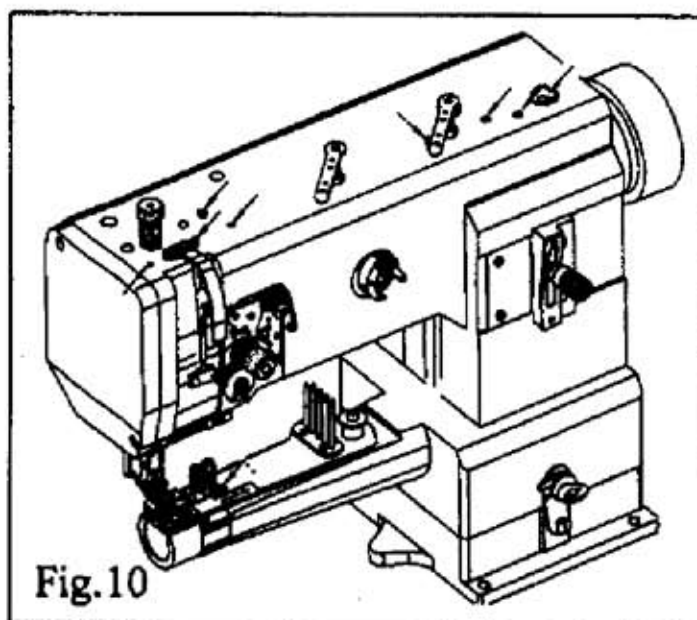

Fig.10
(3) General oiling (Fig.9, Fig.10)